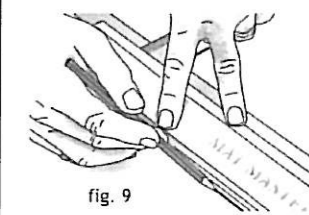

fig. 9
1. Insert the mat, face down, under the rule and position it against the Border Width Back Stop, which is set at the required border width. Rule all four lines from the top to bottom on the back of the mat (fig. 9).